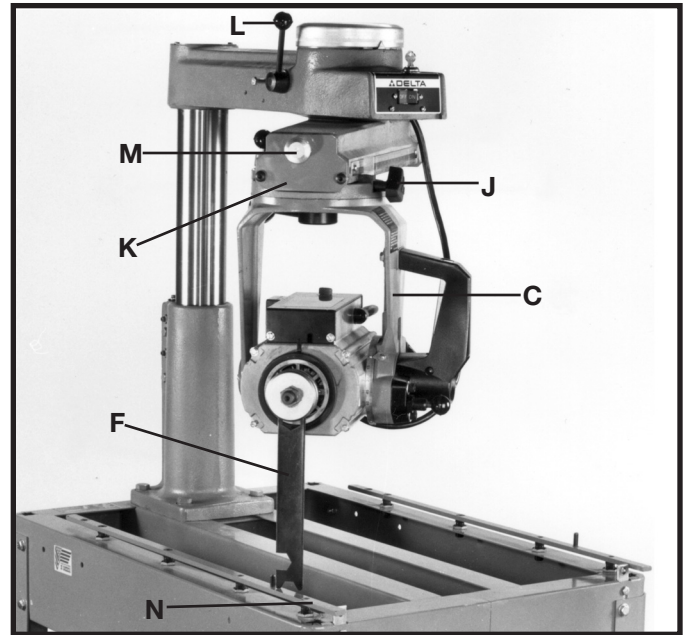
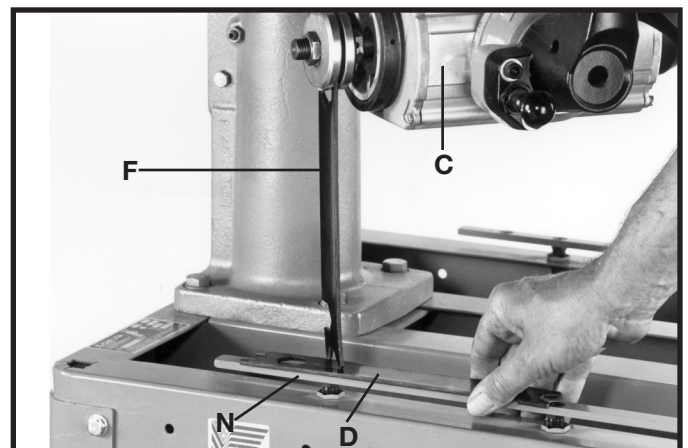

Fig. 20
Fig. 22
4. Loosen cuttinghead clamp knob (J) Fig. 20 and move cuttinghead (C) to the front of track arm (K). Loosen track arm locking lever (L), pull out on track arm index knob (M) and rotate track arm (K) until wrench (F) is over left table bracket (N). Make certain wrench (F) is in the vertical position and tighten knob (J) and lever (L) Fig. 20.
6. Loosen track arm locking lever (L) Fig. 20, pull out on track arm index knob (M) and rotate track arm (K) until wrench (F) Fig. 22 is directly above rear table bracket (N). Tighten knob (J) and lever (L) Fig. 20. Using wrench (D) Fig. 22 as a feeler gage, check to see if the height of the cuttinghead (C), at the rear of the table bracket (N) is the same height as the front table bracket.